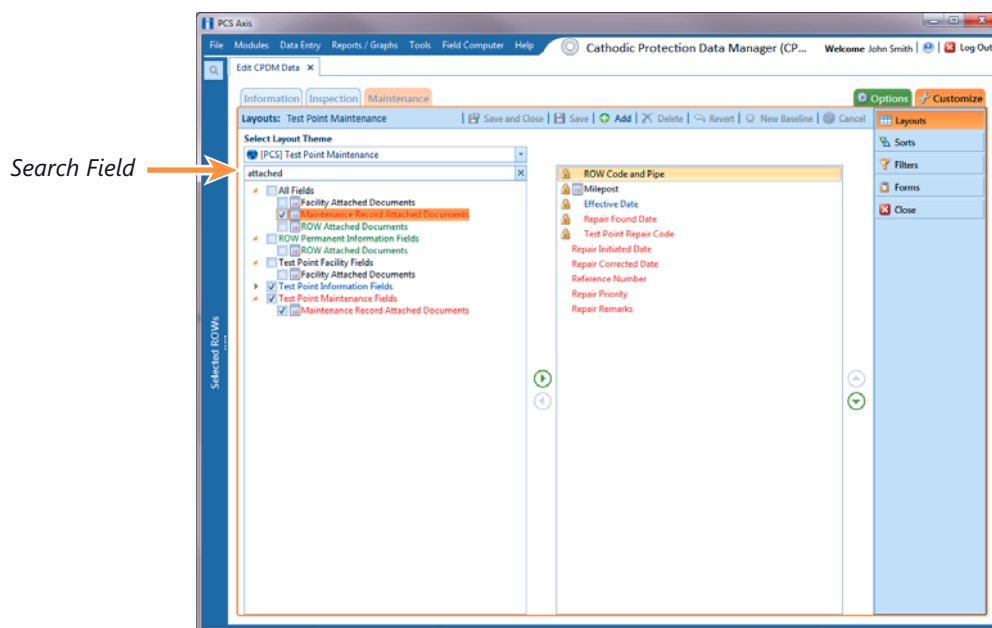

Figure 6-82. Layouts
- Click the check box for the field **Maintenance Record Attached Document** in the left pane of the window (Figure 6-82, page 254).